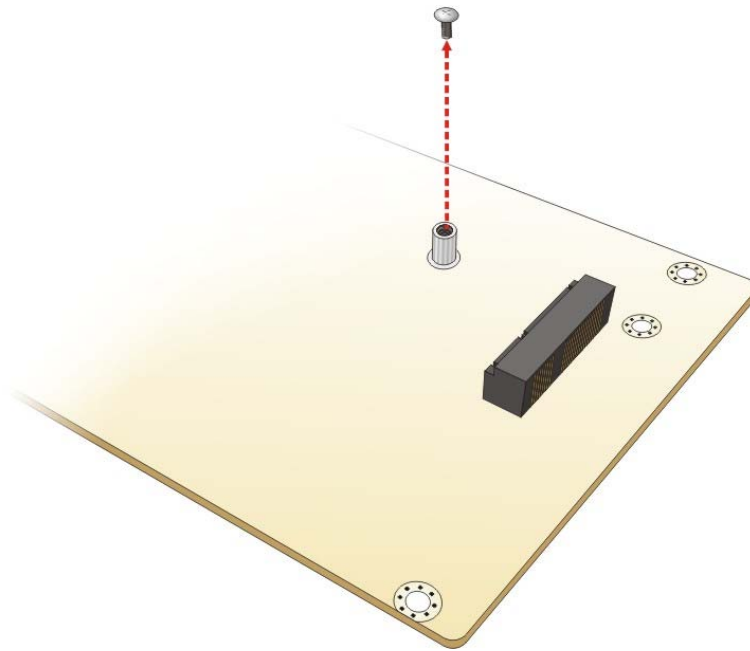

Figure 4-2: Removing the Retention Screw for the iRIS-1010 Module
- Step 2:** Remove the retention screw. Remove the retention screw as shown in **Figure 4-2**.